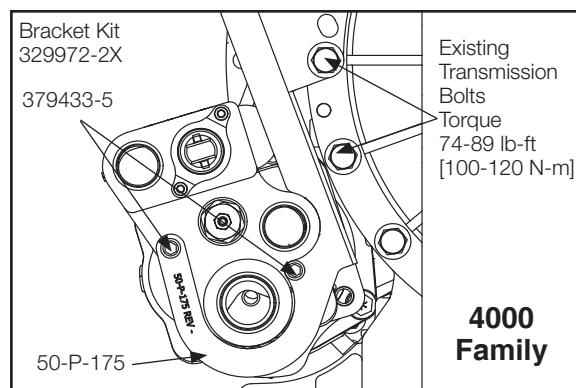
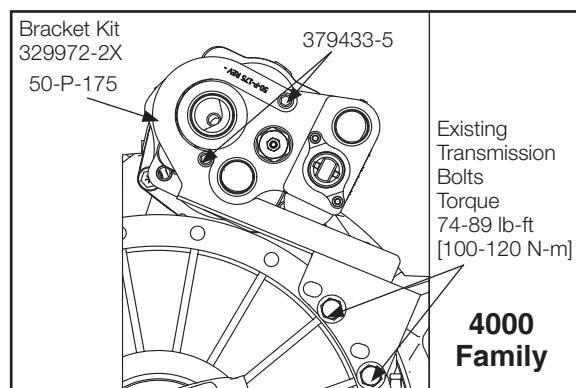

Figure 10
Figure 11
2. Install bracket to transmission using the existing transmission bolts in approved locations (**Fig. 10**) and (**Fig. 11**). Slightly tighten, but do not fully torque to allow alignment of all mounting holes.